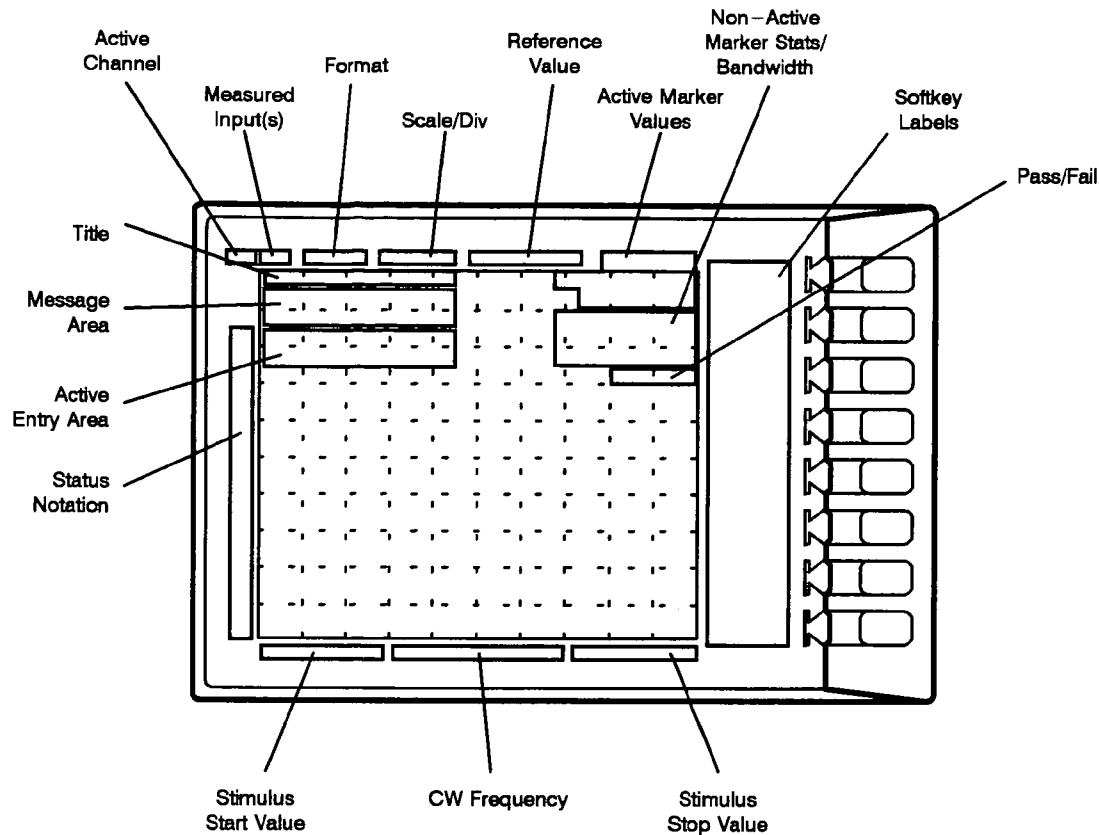

Figure 3-4. CRT Display (Single Channel, Cartesian Format)
4. **CRT Display** shows the of data traces, measurement annotation, softkey labels, and other information. The display is divided into specific information areas (see Figure 3-4).
The CRT displays the grid on which the measurement data is plotted, the currently selected measurement traces, and other information describing the measurement. Figure 3-4 illustrates the locations of the different CRT information labels, described below.
In addition to the full-screen display shown in Figure 3-4, a split display is available, as described under **DISPLAY** Key, *Display More Menu* in Chapter 5. In this case, information labels are provided for each half of the display.